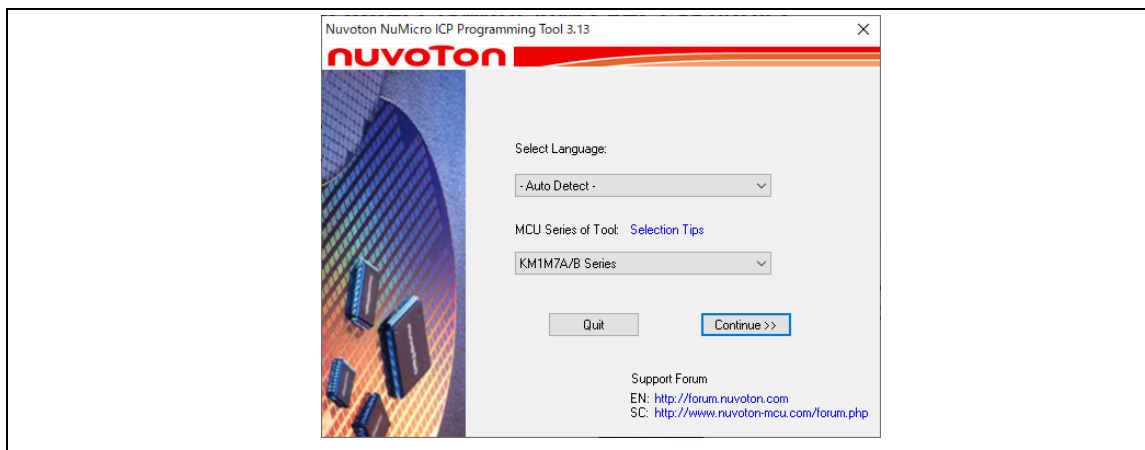

Figure 4-29 ICP Settings
3. Figure 4-29 shows ICP Settings. Start ICP with NuMaker connected, select the NuMaker MCU series in [MCU Series of Tool] on the screen shown in Figure 4-29, and click the <Continue> button.